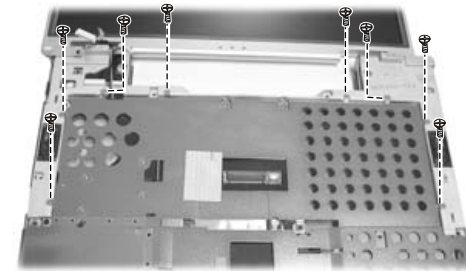

Figure 2-23 Remove the eight screws
7. Remove the eight screws. (Figure 2-23)